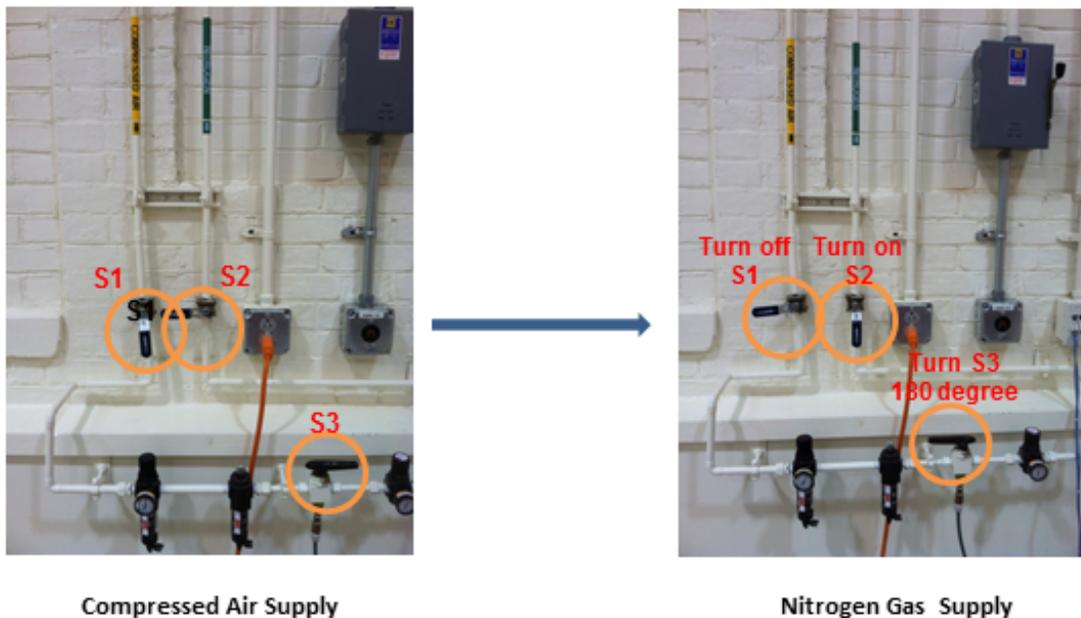

Figure 1: Switch Gas Supply from Compressed Air to Nitrogen Gas
It is highly recommended to use nitrogen gas for high temperature operation due to possible oxidization of probe electronic components occurring at high temperatures. The compressed air gas supply setup for room temperature operation is shown in Figure 1. In this setup, switch **S1** is **on**, **S2**, is **off**, and **S3** is pointing to the left (compressed air). To switch the gas supply to the nitrogen gas, first turn on **S2** by turning it 90° down, then turn **S3** 180° to the right, and finally turn off **S1**, as shown in Figure 1.
5. Switch the gas supply from nitrogen gas to compressed air. To do so, refer to Figure 1 and the procedure described in section 2.1.1, first turn the switch **S1** on, then turn the switch **S3** by 180° such that it is pointing to the left. Finally turn off **S2**.